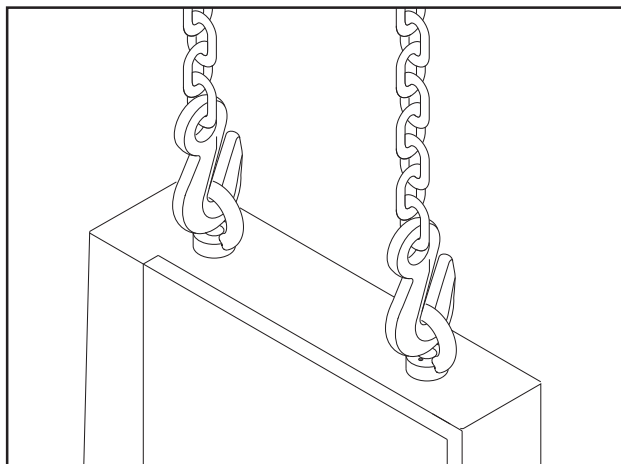

Figure 10. Lifting the bandsaw.
2. Install the eye bolts shown in **Figure 10**, making sure they are threaded all the way in, then place the lifting hooks through the eye bolts and lift slowly with a forklift.